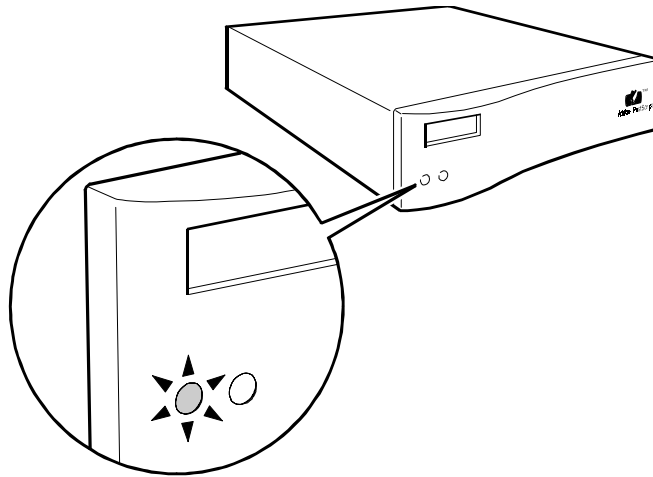

Figure 6.5.2-1. 'Ready to Print' status light condition.
- 1) Check status lights on the controller front panel. After performing a power-on self check, the controller should show the status light condition for "Ready to print", as shown in Figure 6.5.2-1. (See Section 5.6, *LED Status Light Sequence and Conditions*, for a complete listing as to what conditions are indicated by the status lights, and how to interpret them.)
- 2) Print a Diagnostic Test Page and note the area on the report which states the amount of memory available to the printer, as shown in Figure 6.5.2-2.